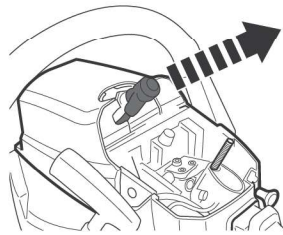

Fig. 58
- > Remove the air filtercover (13) and air filter(14) as described. Disconnect the spark plug connector (15) (Fig. 58).